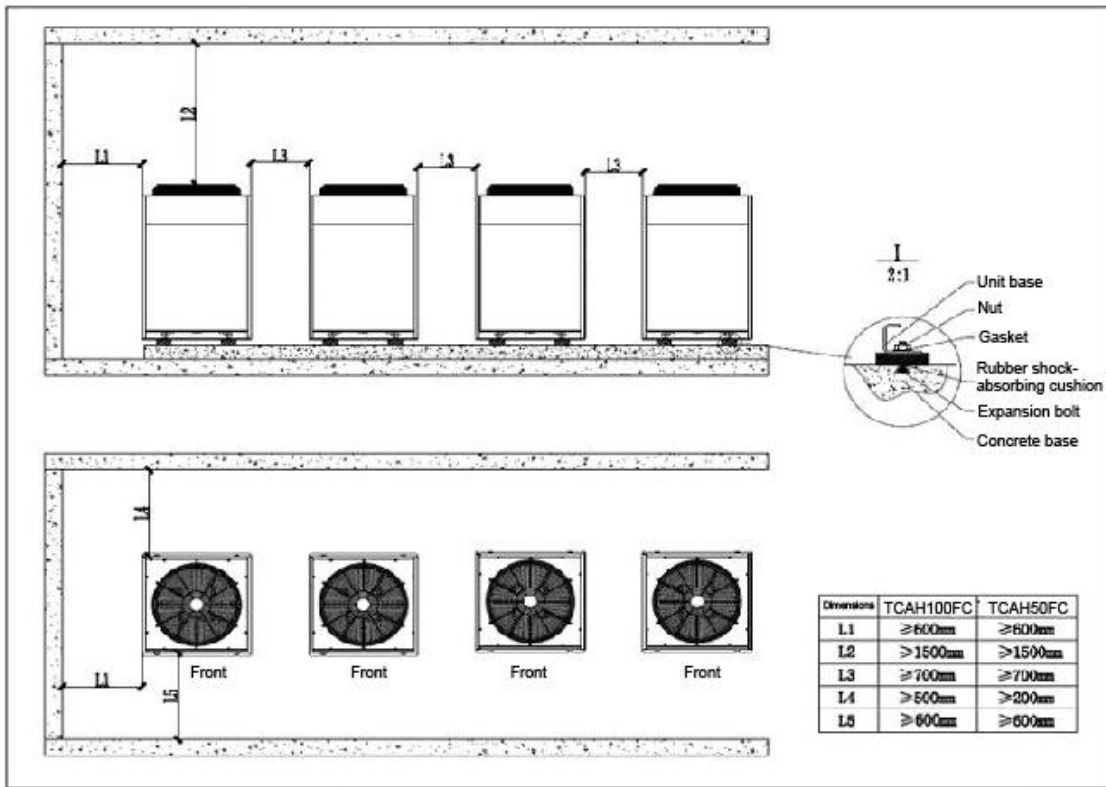

Figure 5.1 Vertical and side-by-side arrangement
1) Arrange in a vertical and side-by-side manner, as shown in Figure 5.1.